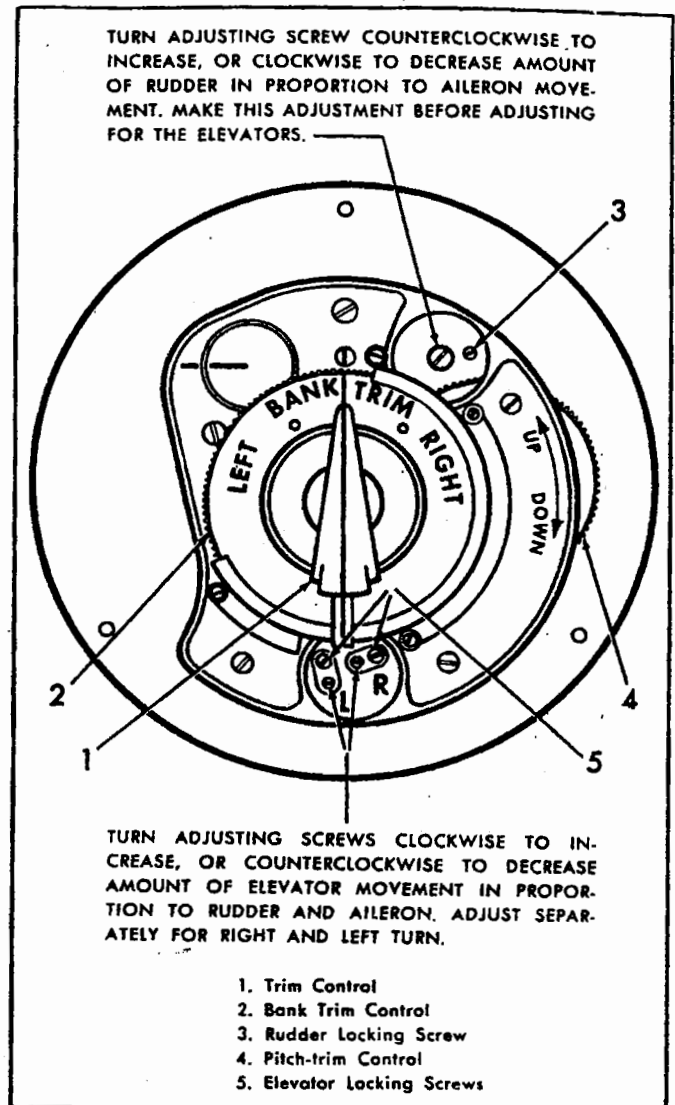

Figure A-4. Auto Pilot Controller.
f. **CONTROLLER.** (See figure A-4.) The controller is employed to maneuver the airplane, change the heading (direction of flight) or fly in a set course other than a straight heading (circle) with the auto pilot. The controller consists essentially of a turn control, bank-trim control, pitch-trim control and three transmitting autosyns which send signals to the rudder, aileron and elevator channels in the servo amplifier. It also incorporates a differential clutch which permits the three autosyn rotors to be turned simultaneously or individually. The turn control (knob on the top of controller) turns all three autosyn rotors simultaneously through the differential clutch to make a coordinated turn of the airplane with the auto pilot. The rate-trim autosyn sends its signal to the rudder channel in the servo amplifier, the pitch-trim autosyn to the elevator channel, and the bank-trim autosyn to the aileron channel. The pitch-trim control and bank-trim control individually turn the rotors of the pitch-trim and bank-trim autosyns independently of the turn control. This arrangement makes it possible to climb or dive the airplane with the auto pilot. When the turn control is in the detent (neutral) the three autosyn rotors are in neutral, thus, the controller does not effect operation of the auto pilot and signals from the transmitting autosyns in the gyro horizon, bank and turn, and master direction (compass) indicators cause the auto pilot to keep the airplane on a straight heading and specific attitude. When the turn control is removed from the neutral position it breaks a circuit which causes a solenoid clutch to de-energize and disengage the transmitting autosyn in the master indicator from the induction motor. This enables
the rate-trim autosyn to send its own signal to the rudder channel as its rotor is moved by the turn control, without fighting the compass signal from the master direction autosyn which would tend to pull the airplane back on a previous heading. The controller is provided with three adjustments which must be made whenever a new controller is installed (see figure A-4). After the ground adjustment, further adjustments must be made while the airplane is in flight.